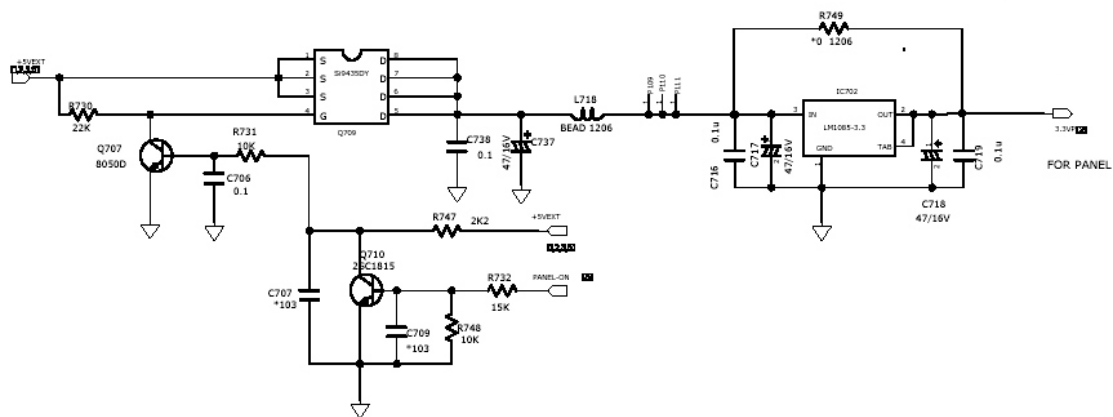

Figure 3.2.4.4 Display screen power supply circuit diagram
(1) Display screen power supply circuit is shown in the figure 3.2.4.4: